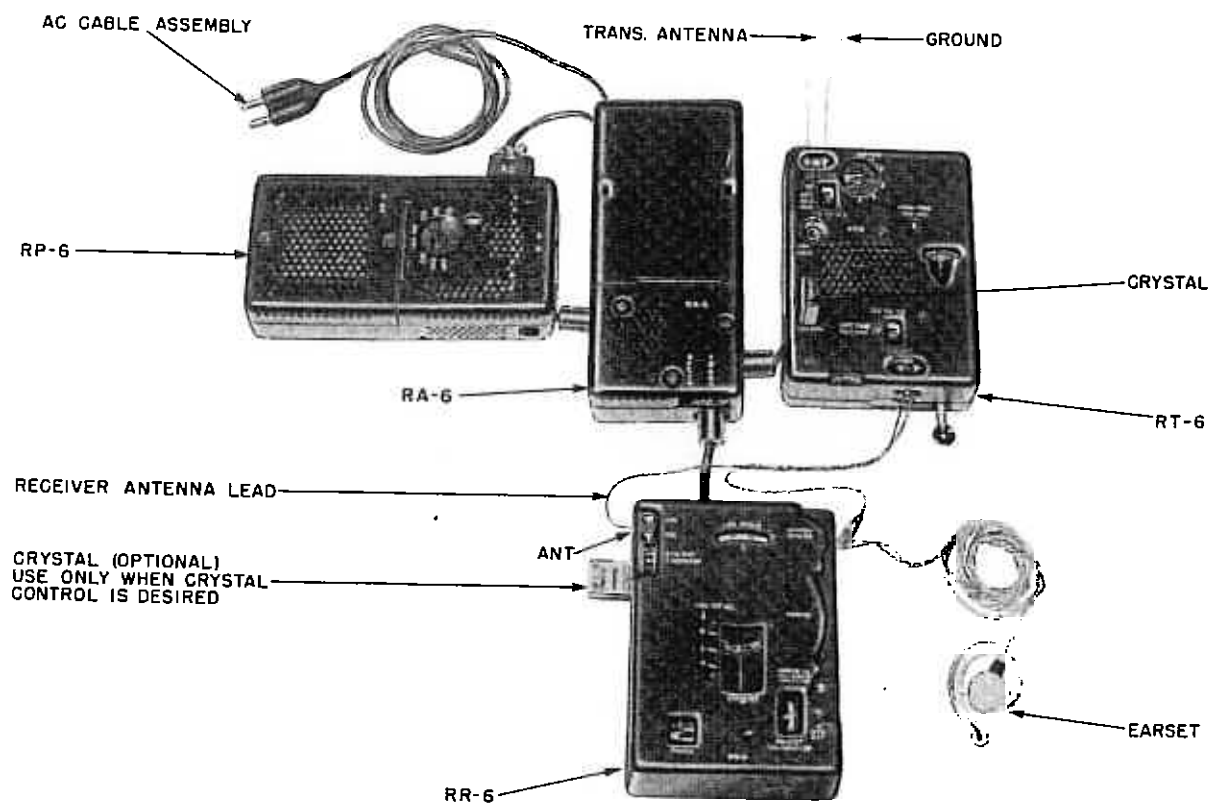

Figure 5. Radio Station RS-6, a-c operation hook-up.
c. Connect the equipment as shown in Figure 5. (Receiver crystal shown is optional.)
(1) The Jones plug marked AC must be inserted in the OPERATE receptacle on Power Supply RP-6 before the power plug is connected to an a-c power source, otherwise "hot" terminals will be exposed and a power line fuse may be blown.
(2) Connect the two-prong plug of the a-c cable assembly to any a-c power source whose voltage is between 70 and 270 volts, and frequency between 40 and 400 cycles per second. The two prong a-c power plug can be adapted to various receptacles in the following ways: